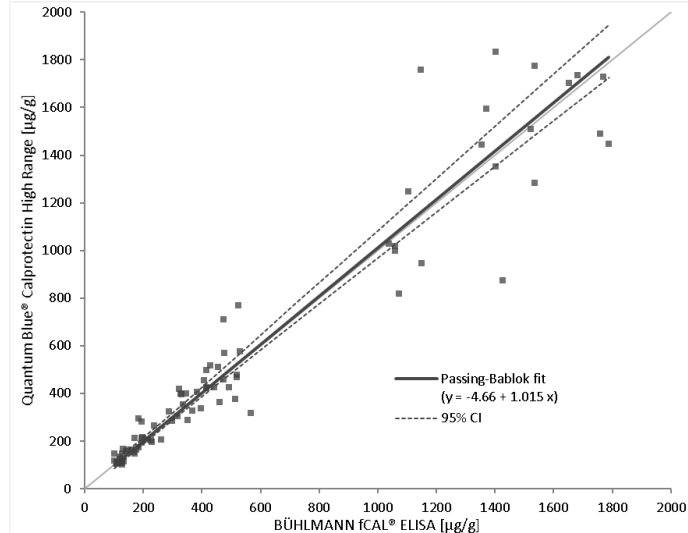

Figure 2
The method comparison study was performed according to the CLSI guideline EP09-A3. One hundred and three (103) stool samples were measured according to the instruction for use with the Quantum Blue® fCAL high range test and with the BÜHLMANN fCAL® ELISA. Measurements were performed over three days using two Quantum Blue® fCAL high range test cassette lots. The correlation data is illustrated in figure 2.